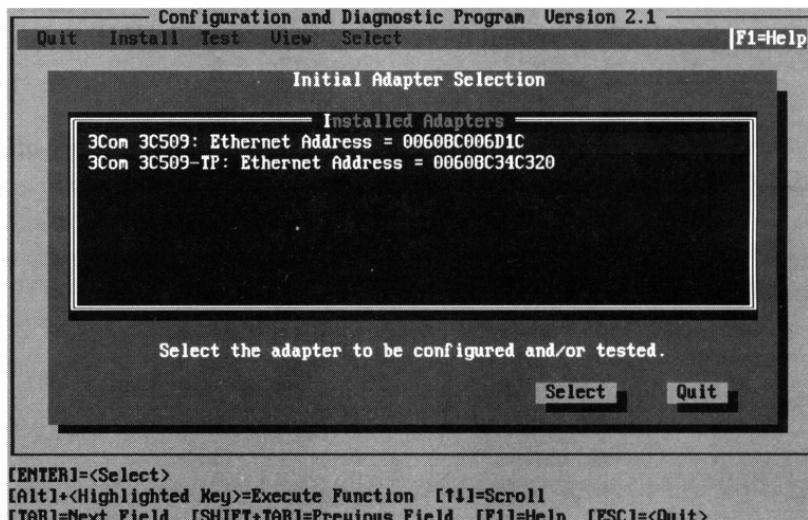

Figure 2-3. Main Window with Multiple Adapters
Select Configuration and Diagnostic from the next screen. When you have multiple EtherLink III adapters installed in your computer, the dialog box that appears is similar to the one shown in Figure 2-3.
7. If you have multiple adapters installed, as shown in Figure 2-3, use the arrow keys to select the adapter and press [Enter].